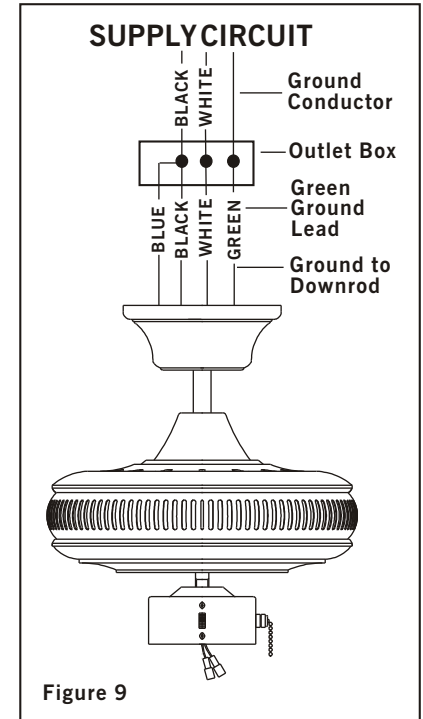

Figure 9
Step 1 Connect the fan supply (black) wire and light supply (blue) wire to the black household supply wire as shown in Figure 9.